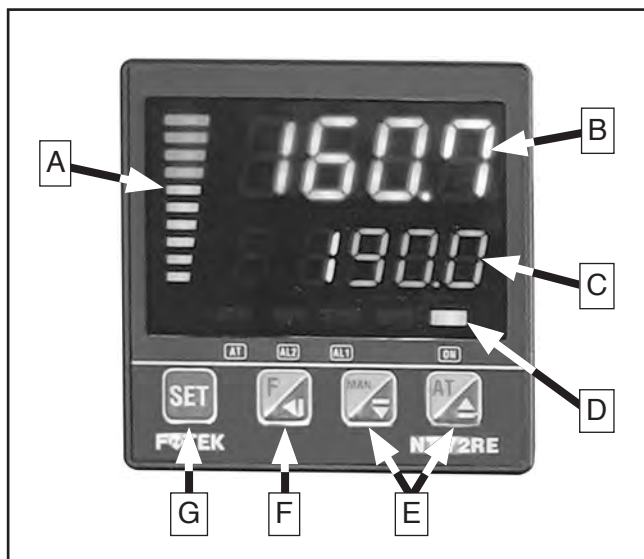

Figure 45. Thermoregulator controls.
Power to the glue pot is present when the main power switch is turned **ON**. The glue pot temperature then can be adjusted, according to the glue manufacturer's recommendation, by using the buttons below the digital display. Refer to **Figure 45** to locate and understand the buttons and indicators of the glue pot thermoregulator.
2. Press 'SET' button on control panel (see **Figure 45**). Lower (green) digits will begin to flash.